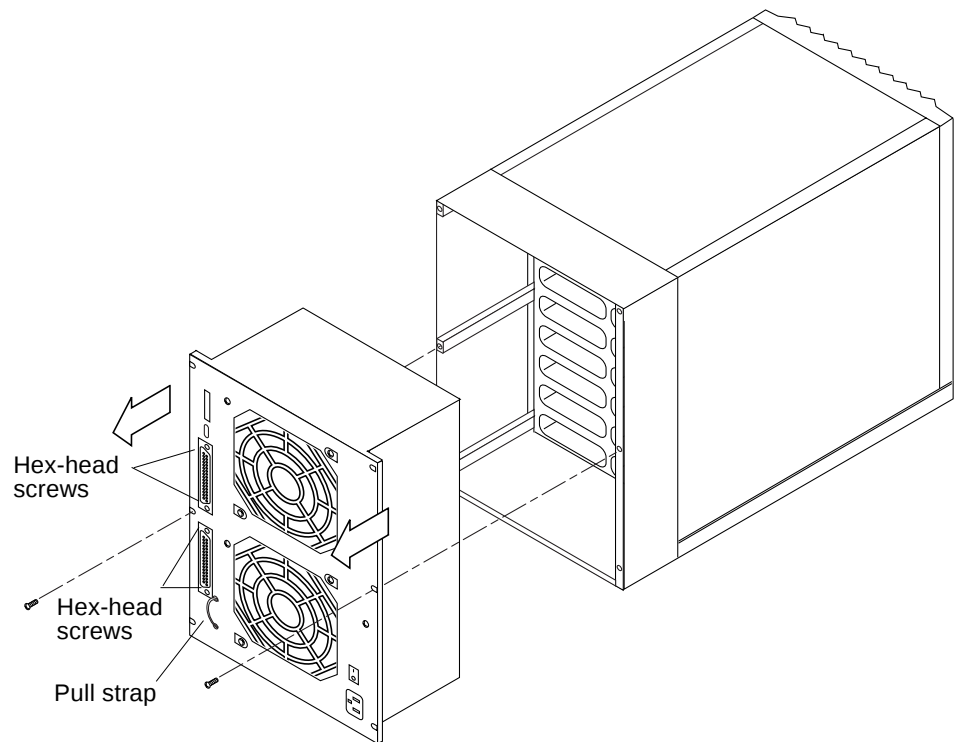

FIGURE 6-2 Removing and Replacing the Power Supply
4. Remove the two Phillips screws that secure the power supply to the unit (FIGURE 6-2).
5. Remove the four hex-head screws at the SCSI connectors (FIGURE 6-2).
6. Carefully pull the power supply out from the unit using the pull strap and set it aside (FIGURE 6-2).
3. **Replace the two Phillips screws that attach the power supply to the unit (FIGURE 6-2).**
4. **Insert and secure the four hex-head screws at the SCSI connectors (FIGURE 6-2).**